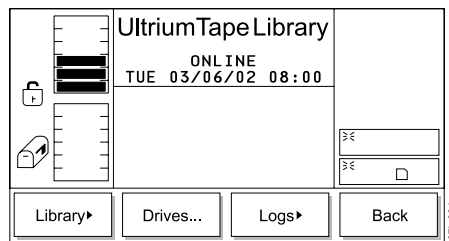

Figure 104. Status Menu
1. From the Main Menu's initial screen, press the button below the **Status** softkey. The Status Menu displays (see Figure 104).